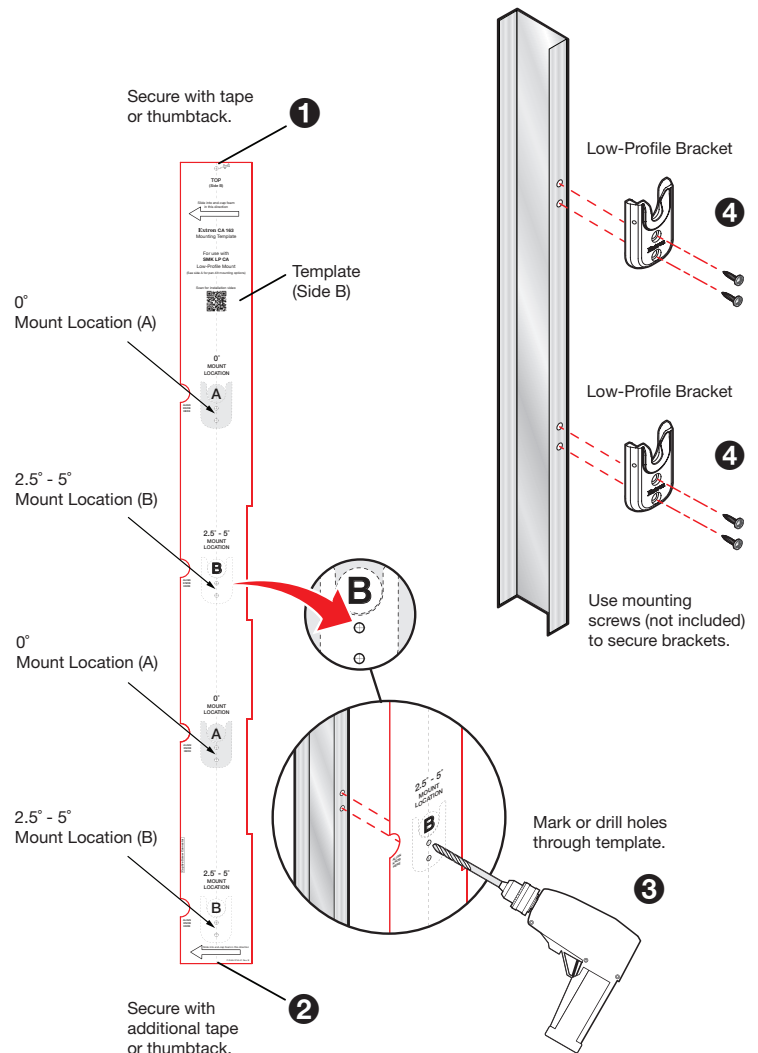

Figure 4. Installing the SMK LP CA Low-Profile Brackets
1. Position SMK LP CA mounting template (see figure 4) to the wall where you want to mount the speaker. Use a pushpin or piece of tape to secure the top end of the template to the wall (1). Ensure the template is level, then secure the bottom end with an additional pushpin or piece of tape (2).
3. Mark four screw locations or drill four pilot holes through the template (3), for four screws (not included) to secure two Low-Profile Brackets to the wall.
7. Use appropriate hardware to securely attach the low-profile brackets to the wall (4) (example — using #14 x 1 3/4" self-tapping wood or metal screws and 1/4" SAE washers).